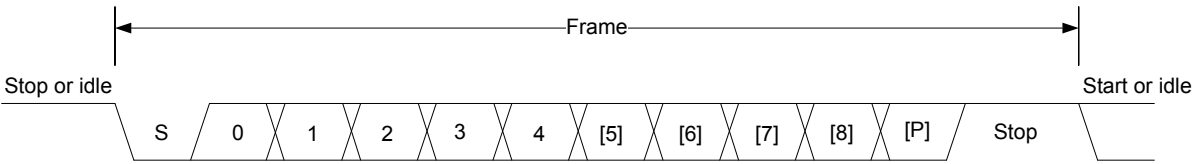

Figure 17.2. USART Asynchronous Frame Format
The frame format used in asynchronous mode consists of a set of data bits in addition to bits for synchronization and optionally a parity bit for error checking. A frame starts with one start-bit (S), where the line is driven low for one bit-period. This signals the start of a frame, and is used for synchronization. Following the start bit are 4 to 16 data bits and an optional parity bit. Finally, a number of stop-bits, where the line is driven high, end the frame. An example frame is shown in Figure 17.2 USART Asynchronous Frame Format on page 542.